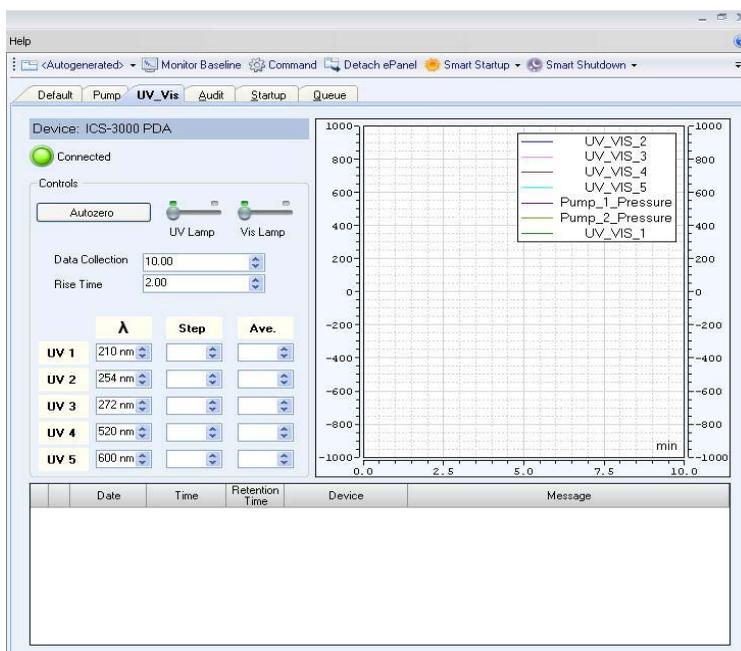

Figure B-9. Example Dionex PDA ePanel in Chromeleon 7
3. To view the Dionex PDA ePanel (see Figure B-9), click the **UV_Vis** tab on the ePanel Set. The ePanel provides access to Dionex PDA functions, as well as detailed status and diagnostics information.